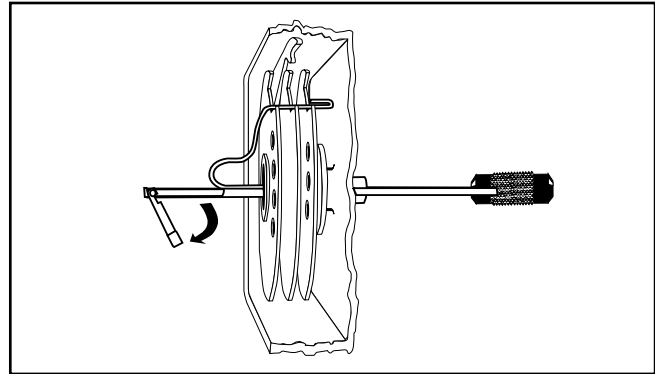

Fig. 4
2. Use NST-A for the relocker. Make sure that the hinge moves freely. Insert the tool through the spindle hole so that the tip is facing downward. See Fig. 4. The tool fits right over the relocking wire. Turn the tool clockwise which will engage the lever and draw back the bolt.